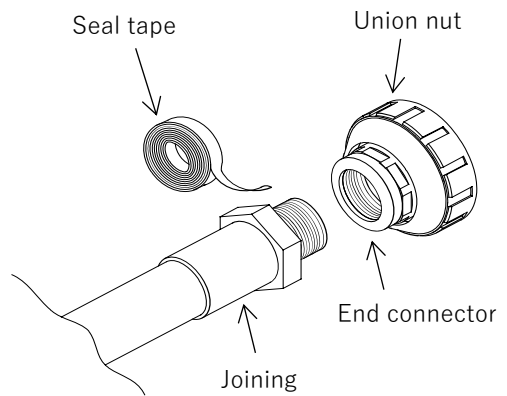

Figure 5.2-1
- 5) Screw in 1/2 to 1 turn with a spanner or motor wrench, being careful not to damage the end connector. (**Figure 5.2-1**)